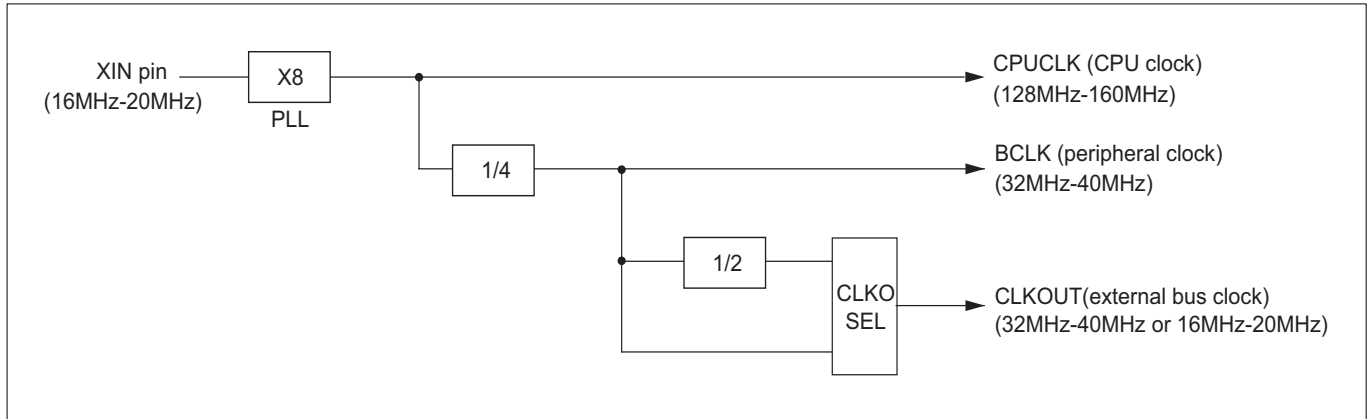

Figure 1.1.1 Conceptual Diagram of the Clock Frequency Multiplier
- The 32192/32195/32196 contains a clock frequency multiplier, which is schematically shown in Figure 1.1.1 below.